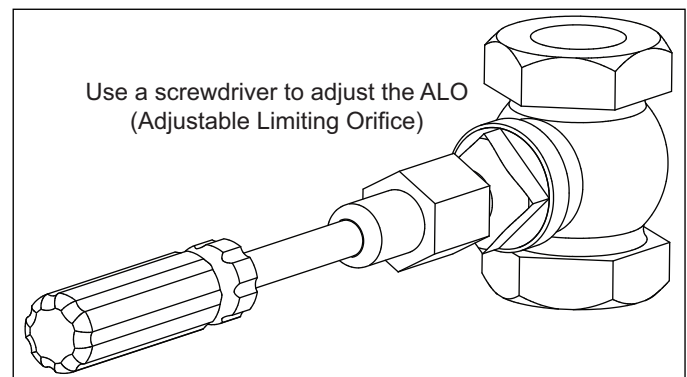

Figure 4.1. Typical ALO Valve Adjustment
3. Open the pilot adjusting valve two turns (see figure 4.1).